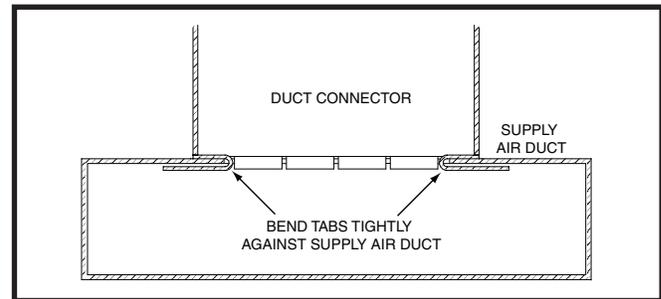

Figure 6. Duct Connector Tabs
- Bend the connector tabs on the bottom of the duct connector upwards and as tight as possible against the supply air duct. See Figure 6 (page 7).